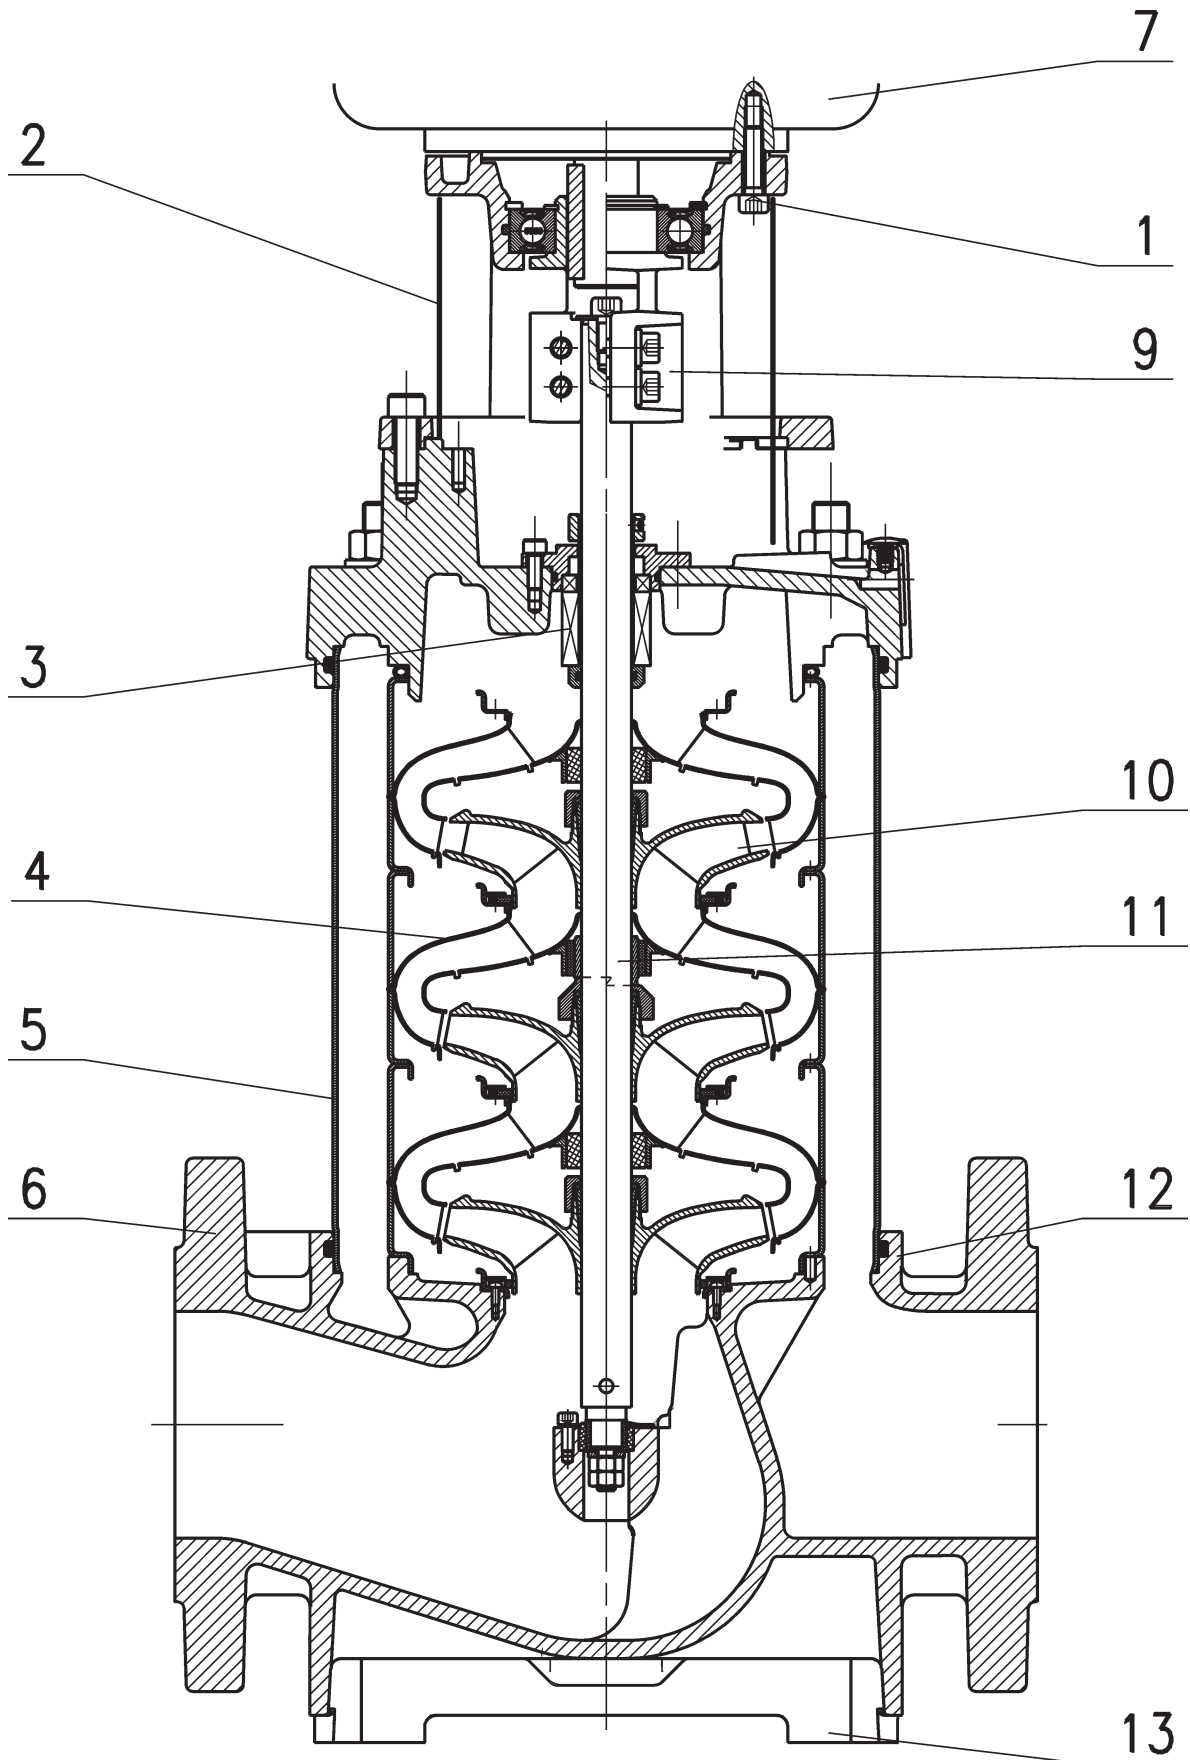

Fig. 2
- Install the pump in an easily accessible place to facilitate inspection and disassembly. Always install the pump exactly perpendicular on a sufficiently heavy concrete base (Fig. 2, 3). Fit a vibration absorber between the base and the floor.
- In the case of heavy pumps fit a hook (Fig. 2, Pos. 12) or eye with a suitable load-bearing capacity (total weight of pump: see catalogue/ data sheet) vertically above the pump, to which a hoist or similar device can be attached when maintaining or repairing the pump. Allow for a free size when completed of min. 200 mm.